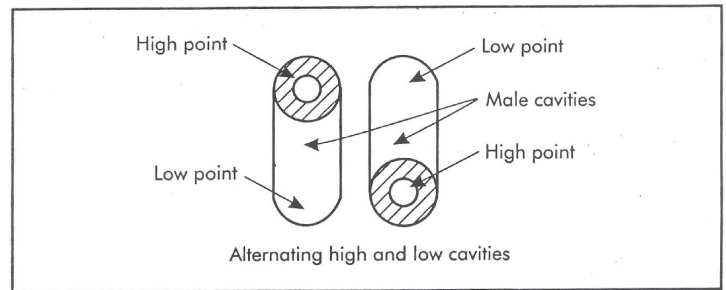

Figure 5. Alternating high and low profile male cavity sections.
3. *Good layout procedures* for most polygon or round cavities, both male and female, are best aligned in straight rows to simplify later trimming operations. Triangular parts can be nested to make best use of available mold area. Alternating high and low profile mold section aids in distributing the part wall thickness (Fig. 5).